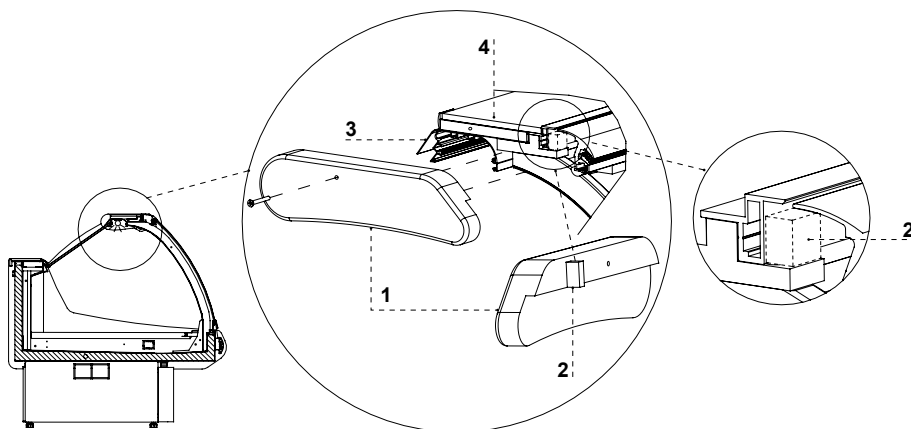

Fig.6 Assembly of the ABS lamp hole plug ("SP" version)
3. Mounts the ABS lamp hole plug Fig.6/1 (p.19)
4. Mount the glass shelf Fig. 6/4(p.19)